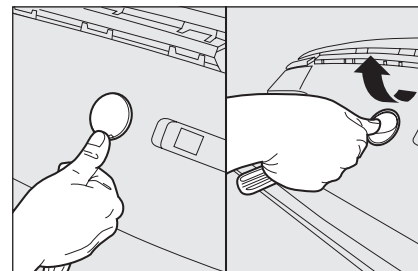

fig. 47
- rest your thumb on the cap to avoid damage **fig. 47**;
- extract the cap (without turning it) perpendicularly to the supporting surface **fig. 47**.